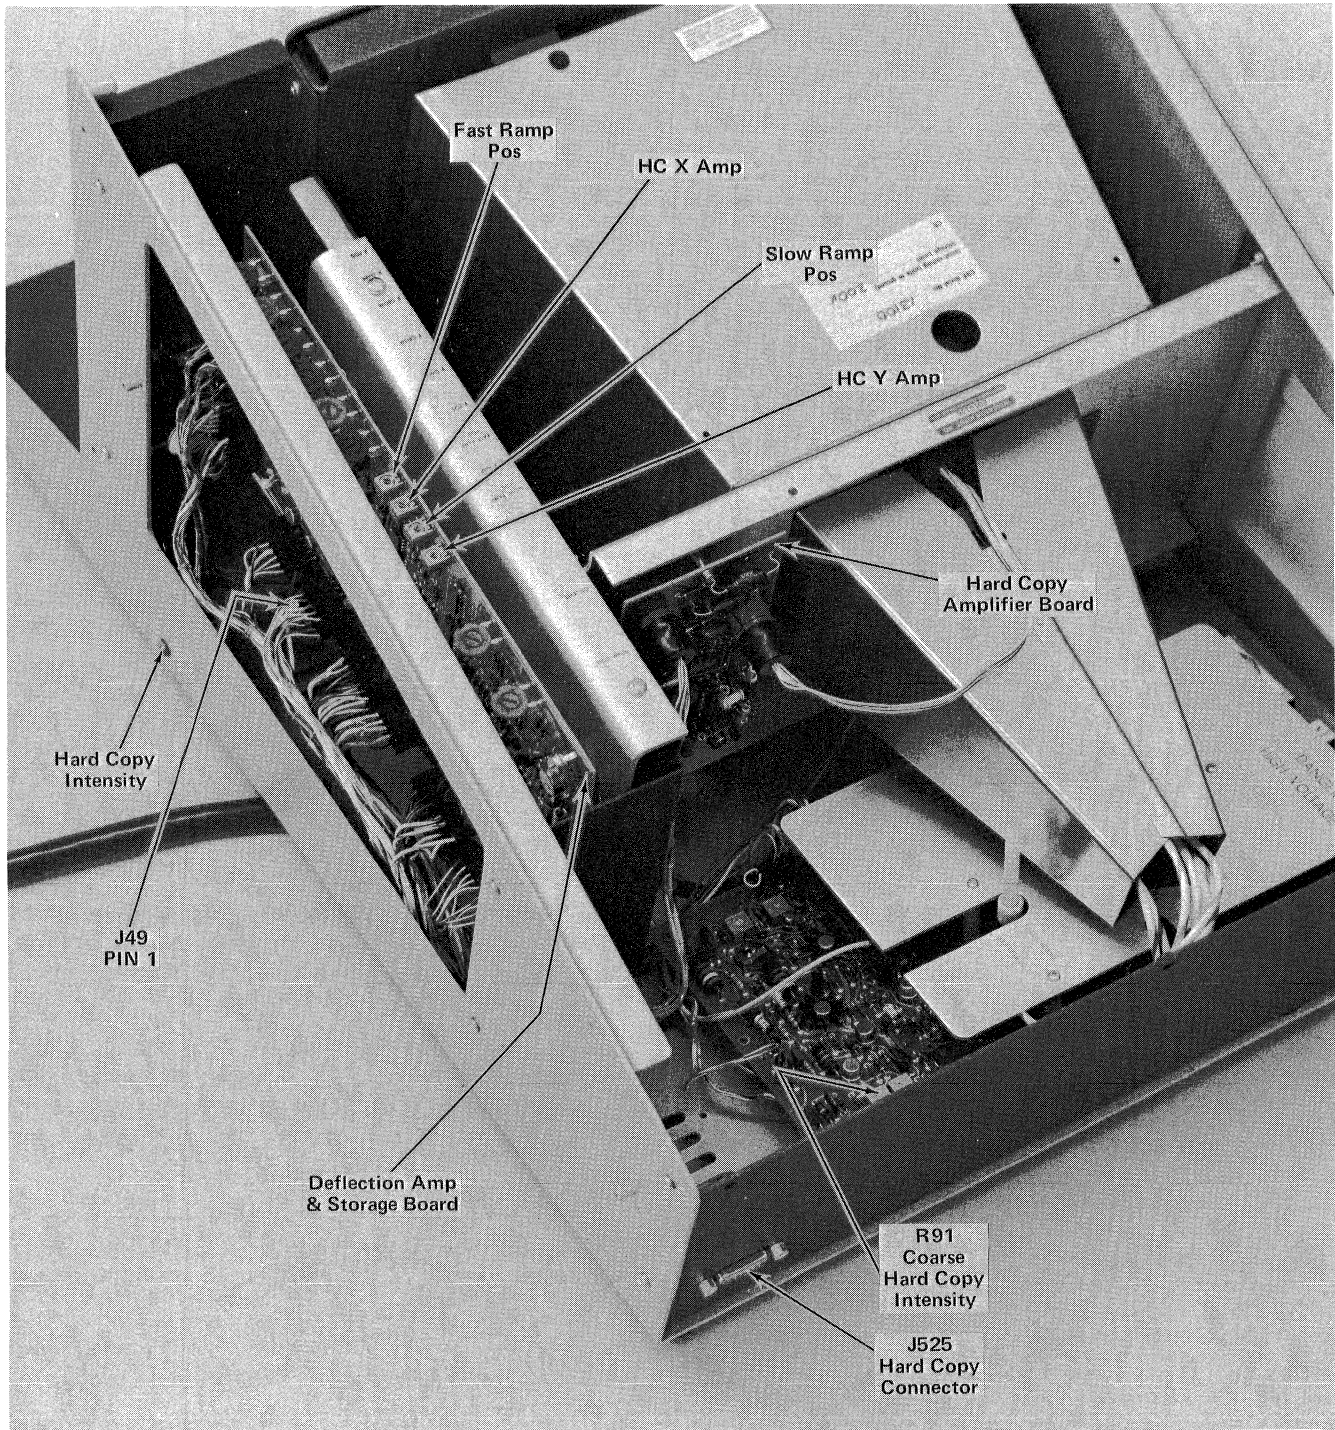

Fig. 4-14. Hard Copy adjustment and test point locations.
- f. Set the HC X AMP potentiometer (top of Deflection Amp & Storage board in the display unit, Fig. 4-14) fully clockwise.
- g. Turn the Hard Copy Intensity on the side of the display unit (Fig. 4-14) fully clockwise.
- h. Press the MAKE COPY button and note that a scan bar moves up the screen. If the scan bar does not appear and store as in Fig. 4-15, adjust R91, Coarse Hard Copy Intensity (on the High Voltage & Z Axis board in the display unit, Fig. 4-14) until the bar does store. Press PAGE and MAKE COPY between adjustments.
a. Press PAGE and MAKE COPY. Set Hard Copy Intensity (side of display unit) to mid-position. Then adjust R91, Coarse Hard Copy Intensity (on High Voltage & Z Axis board inside display unit, Fig. 4-14) to a point just below that at which the scan bar does any storing. Repeat as necessary to eliminate storing at all points on the display area.
b. Connect a probe from the oscilloscope's external trigger jack to the Z signal line at J49 Pin 1 on the Deflection Amp & Storage board in the display unit (Fig. 4-14). Switch the oscilloscope to external triggering.